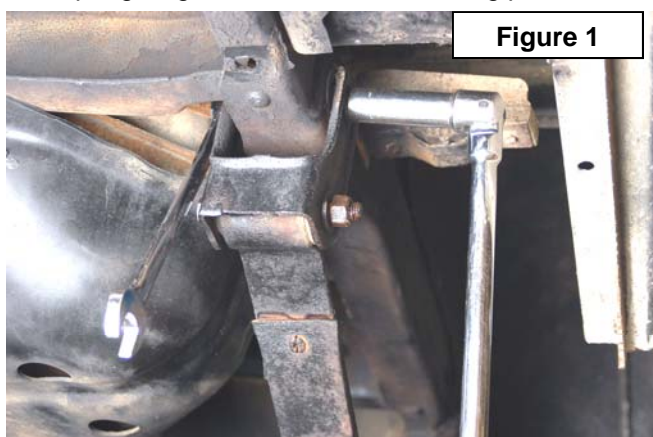

Figure 1
5. Remove the stock shackles using a 21mm wrench and socket. Retain the stock hardware for reuse. **See Figure 1.**